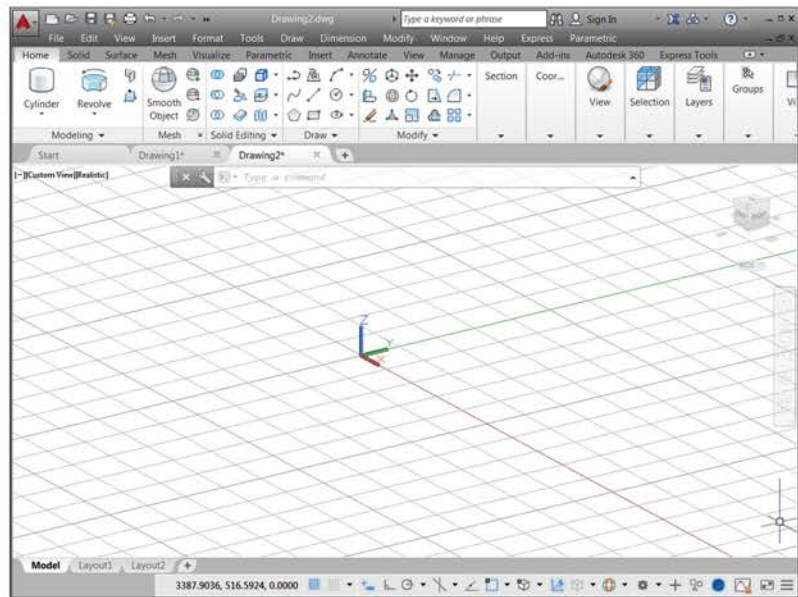

Fig. 16.2 The 3D Modeling workspace with the `acadiso3D.dwt` template file
2. Open the `acadiso3D.dwt` template file (Fig. 16.2).